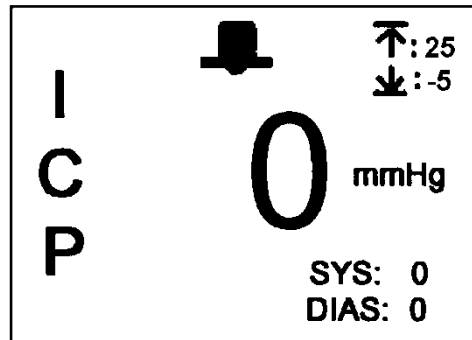

Figure 32
- 14.6.9 Use the arrow keys to set the LO limit to -5, then press MENU. Verify that the DUT returns to the standard run mode with the "ALARM ON" and "HI: 25", "LO: -5" limits displayed at the top of the screen per Figure 32. Verify that the display and audio alarms are not engaged at this time.